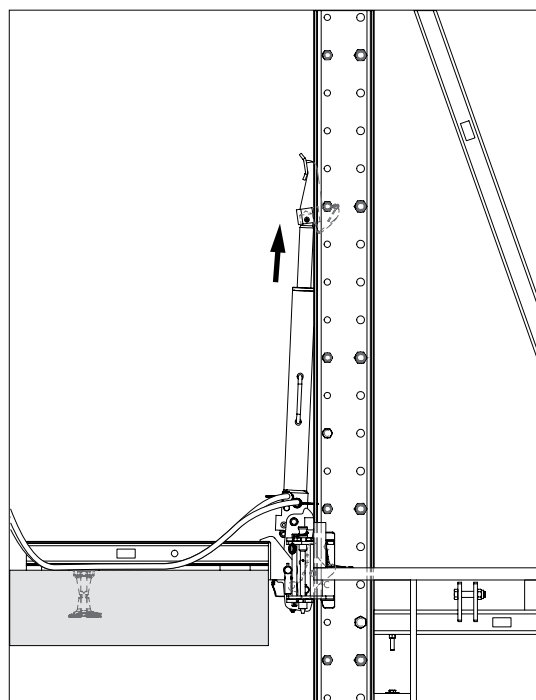

Fig. D4.07
2. By repeating Steps 3 to 6 several times, the Climbing Unit is gradually climbed upwards in increments of 50cm. (Fig. D4.07)